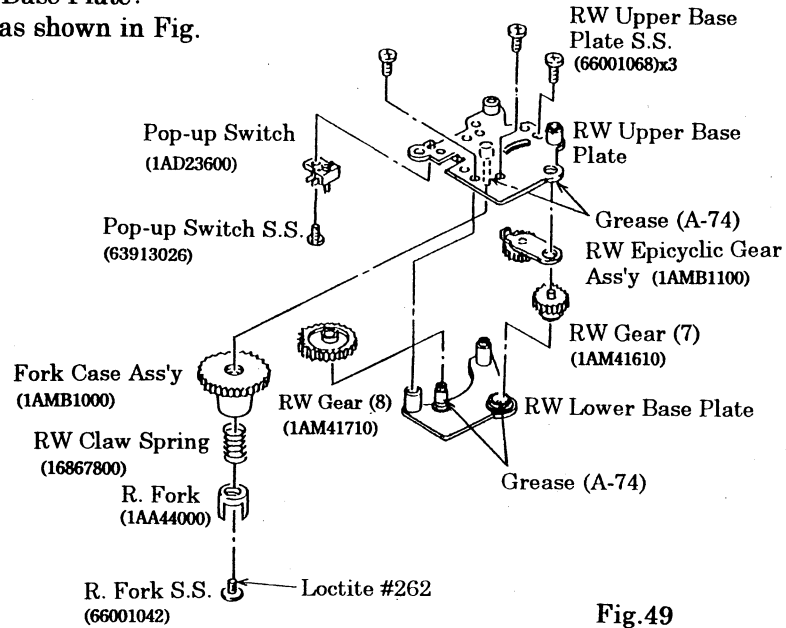

Fig.49
- 2) Disassemble the Ass'y as shown in Fig. 49.